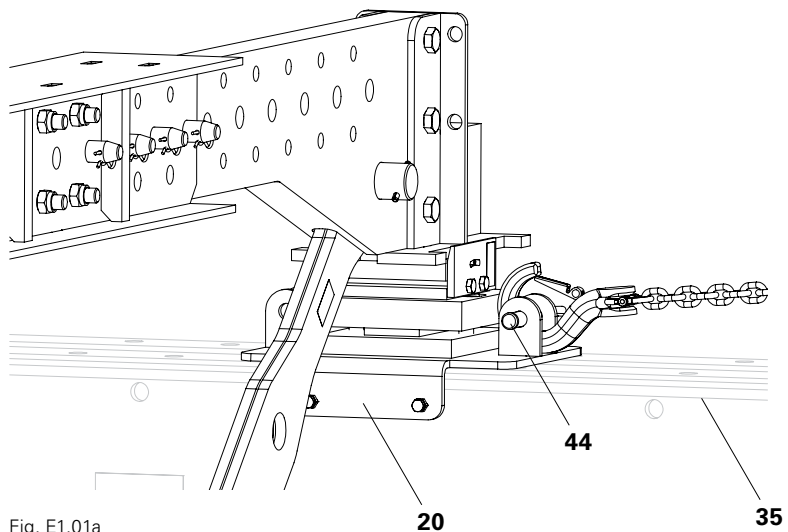

Fig. E1.01a
1. Lower the Main Beam (35), including the truss girder and formwork, onto the supports.
4. Attach the lifting chain to the centering plate (20) with the bolt (44) and secure with cotter pin. Repeat procedure at the other end of the truss package.
- (Fig. E1.01a)